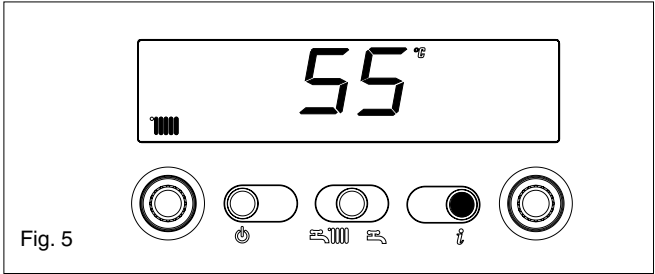

Fig. 5
- Info 3** CH temperature set (fig. 5)